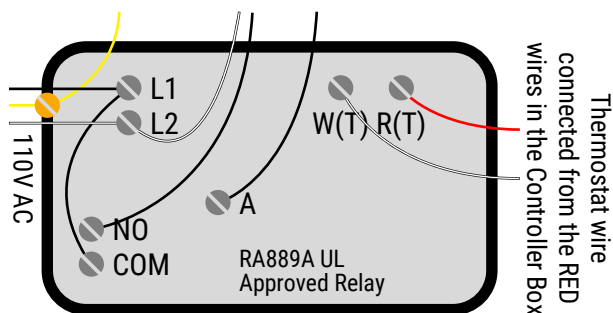

Fig. 20
- **Integrated Light Connection (Fig. 20):**